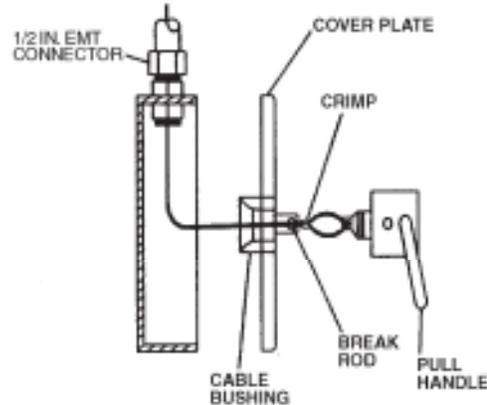

Figure 4-16. Model RPS-M Remote Pull Station Installation.
▶ After mounting the pull station box and conduit, feed the stainless steel cable from the control head, through the conduit, and into the pull station box. Insert the bushing into the pull station's cover plate and secure it with the locknut provided. Feed the cable through the bushing and into the pull handle ensuring that the cable fully crosses the set screw hole. Fasten the cable to the pull handle with the set screw (see Figure 4-16).